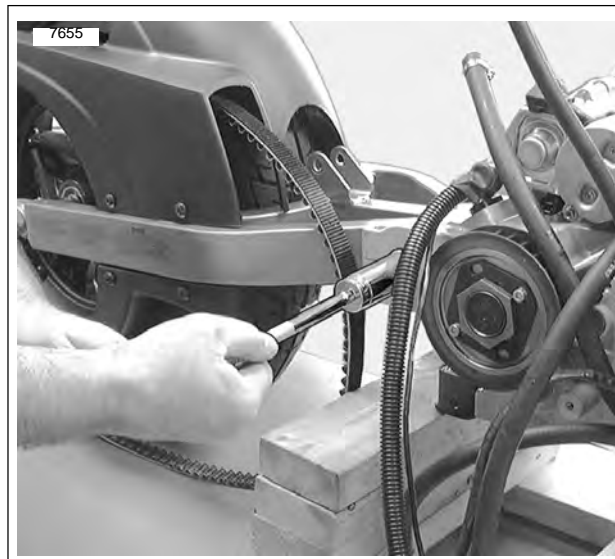

Figure 3-22. Swingarm Pivot Shaft
4. See Figure 3-22. Install swingarm pivot shaft and rear wheel as an assembly. See 2.20 SWINGARM.